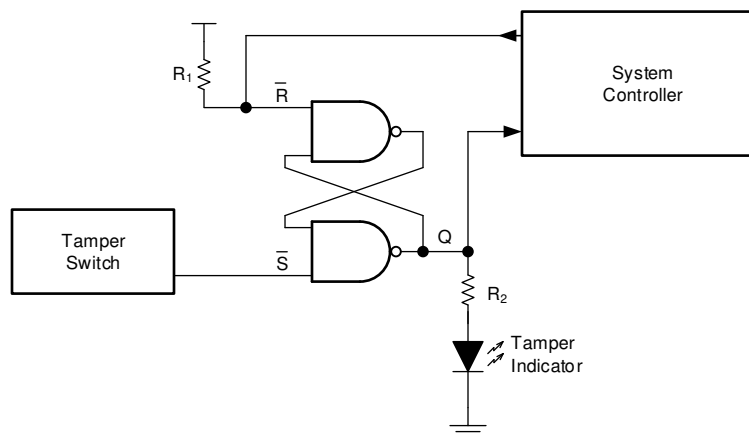

Figure 8-1. Typical Application Block Diagram
Figure 8-1 shows how the SN54SC4T00-SEP is used to up-translate a 1.8-V signal to 3.3 V to drive an LED in this application. The SN54SC4T00-SEP does not limit the output current, so an added output resistor is used to provide the appropriate current limiting. The resistor value (R) should be determined by the LED's forward voltage (V_D) and the desired forward current through the LED (I_D) using this equation: $R = (V_{CC} - V_D)/I_D$.